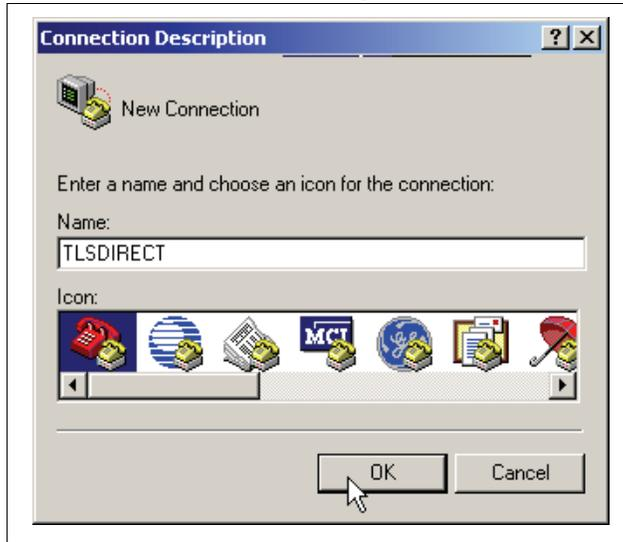

Figure 12. Connection Description window
- After opening the terminal software program, ignore (cancel) any modem/dialing related request windows since you will be directly connecting to the console via serial communications. When the Connection Description window appears (Figure 12), enter a connection name, e.g., TLSDIRECT, and click the OK button.